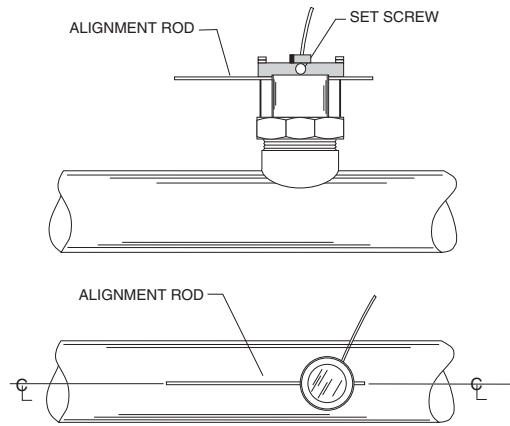

Figure 2: Alignment of Flow Sensor 220BR and 220SS
1. Loosen the positioning collar set screws with a 3/32 inch Allen wrench. Place the alignment rod through the sight holes in the flow sensor. See Figure 2. Using the alignment rod as a guide, align the flow sensor so the flow label arrow matches the pipe flow direction and the alignment rod is exactly parallel to the pipe. This procedure aligns the impeller directly into the fluid flow.